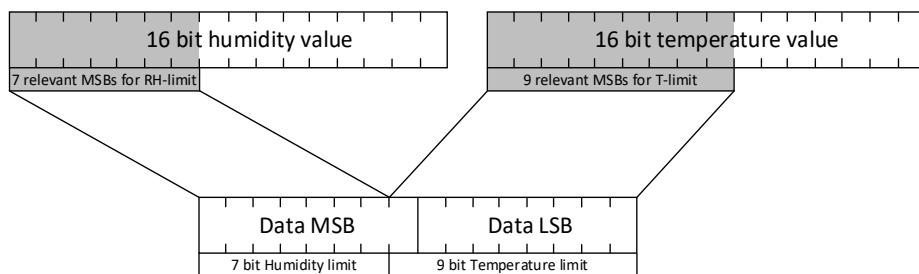

Figure 7.2 Relevant Bits for the limits
The sensor stores the limit information in a simplified data format. The standard data format width of NSHT30-Q1DNR acquisition data is 16-bit. So, only the most significant bit (MSB) is used to determine whether the alert setting conditions are met (where the humidity is 7 bits and the temperature is 9 bits), as shown in Figure 7.2.
As shown in Figure 7.2, the reduced data format is given.
5. Combine the reduced values (step 3 and 4) according to Figure 7.2